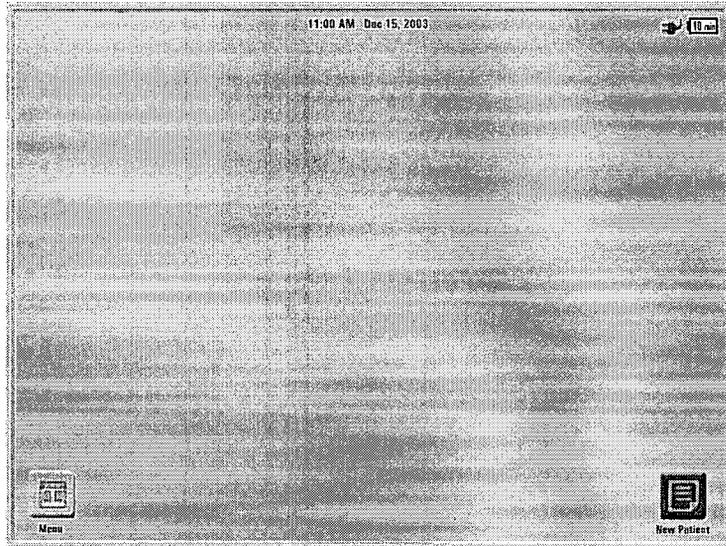

Figure 5-8 PRU Ready Screen
8. Press **Close** on the Menu screen to return to the PRU Ready screen (refer to Figure 5-8 on page 5-10).